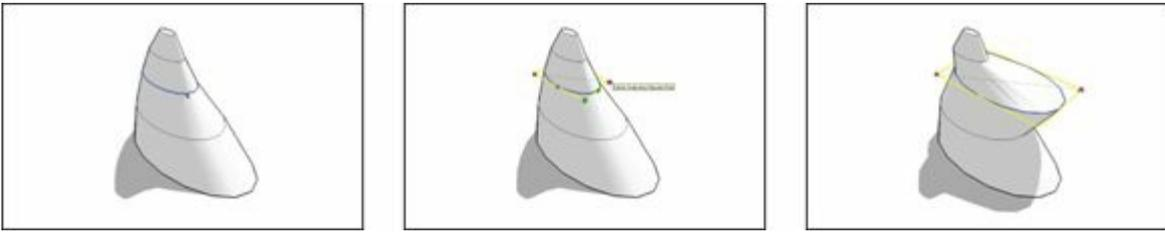

FIGURE 6-15: You can go back and scale any profile at any time while you work.
- » **Don’t be afraid to go back and tweak.** The beauty of this method is its flexibility. While you’re working, you can select any of the 2D *profiles* (shapes) in your model and use the Scale tool to tweak them. Just select the loop of edges along the perimeter of the profile you want to scale and take it from there. Figure 6-15 illustrates an example of how you can tweak a shape by scaling.